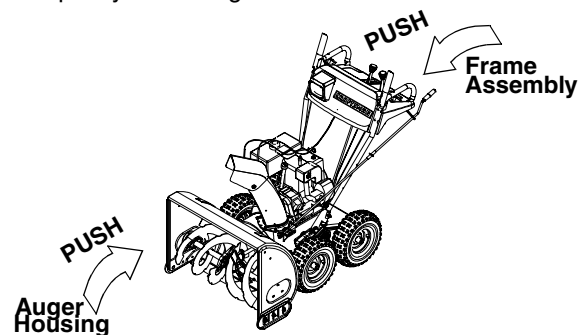

Figure 30
- While lifting up on the handles, bring the frame assembly close to the auger housing, and place the two belts on the front and rear engine pulleys. See Figure 30.